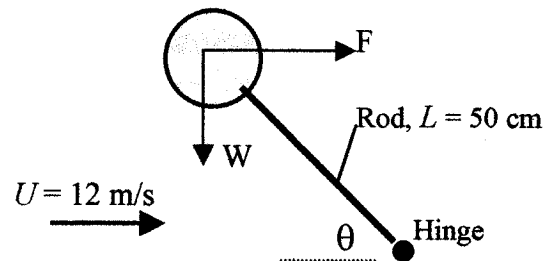

Fig. P7.112
**7.112** A smooth wooden sphere ( $SG = 0.65$ ) is connected by a thin rigid rod to a hinge in a wind tunnel, as in Fig. P7.112. Air at  $20^\circ\text{C}$  and 1 atm flows and levitates the sphere. (a) Plot the angle  $\theta$  versus sphere diameter  $d$  in the range  $1 \text{ cm} \leq d \leq 15 \text{ cm}$ . (b) Comment on the feasibility of this configuration. Neglect rod drag and weight.